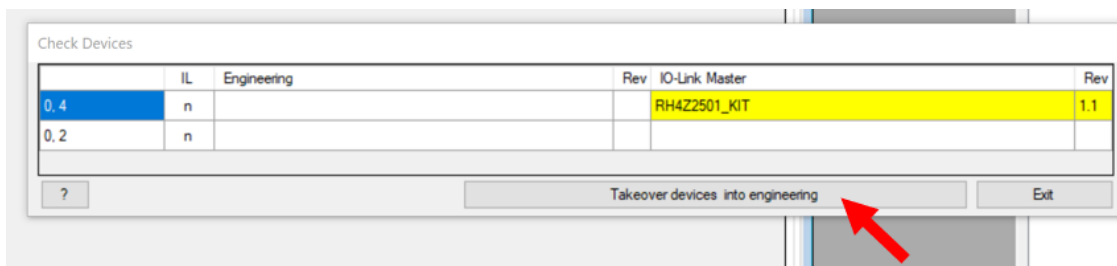
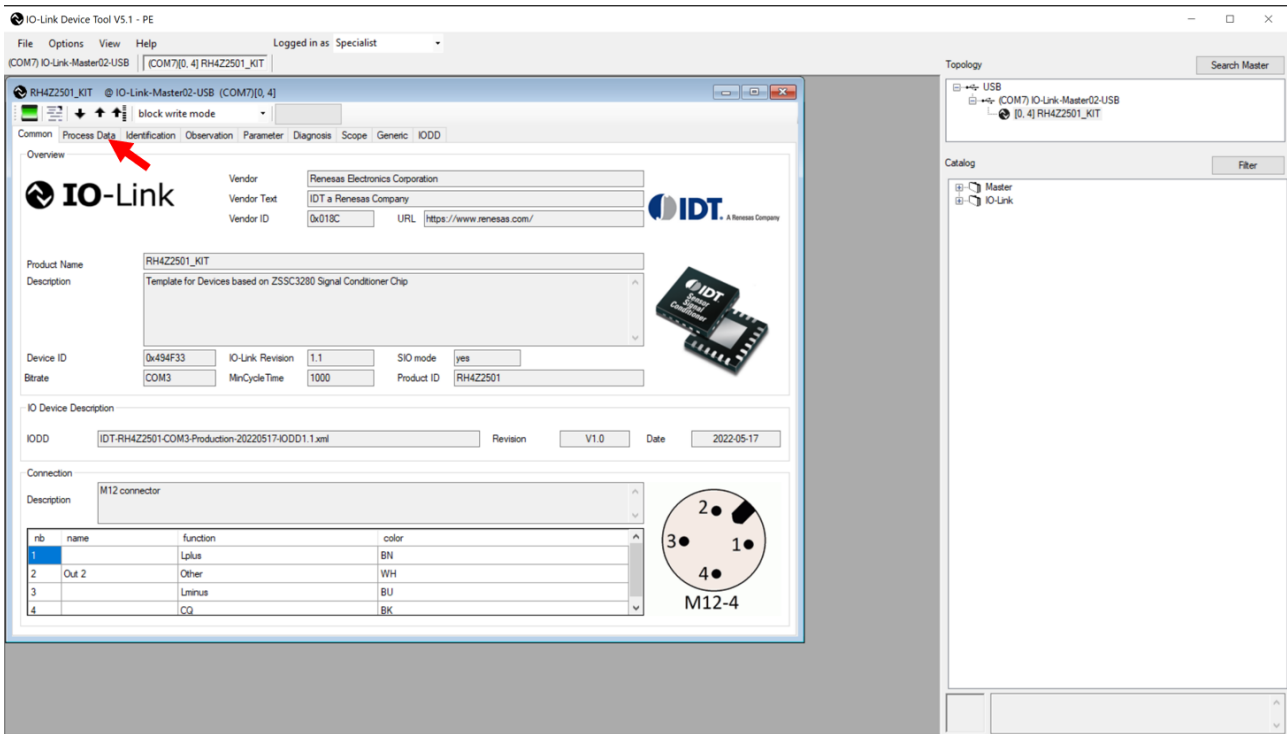

Figure 6. Takeover Devices
Figure 7. Opening Process Data Tab
- d. Click on 'Takeover devices into engineering', see Figure 6. Figure 7 will then appear.
- a. Open the 'Process Data' tab in the 'RH4Z2501_KIT' window, see Figure 7.